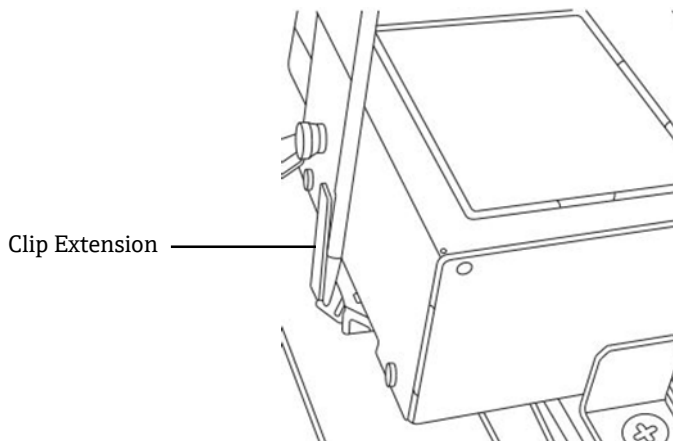

Figure 77. Inserting screwdriver into clip extension
4. Insert a flathead screwdriver in the clip extension at the top of the electro-optical module as shown in Figure 77.